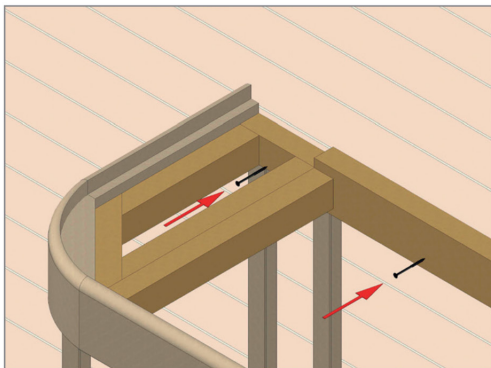

Figure 3
3. After that lift the assembled sauna bench frames on supports and fasten these to the walls with screws (5x80 mm). Depending on the wall construction, longer screws may be needed. Make sure to place additional supports under the end module. NB! Supports are not included in the package. (Figure 3)